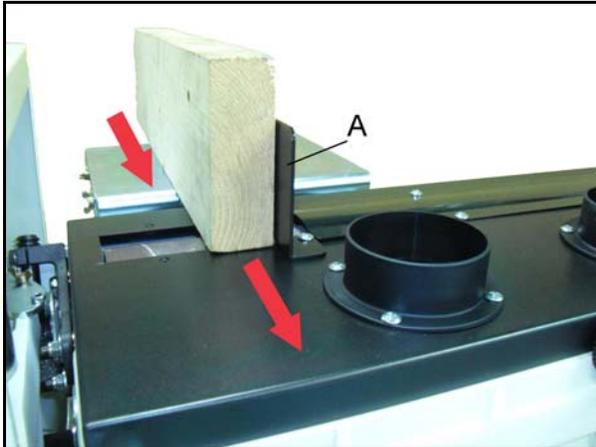

Figure 34
The plate (A, Figure 34) can be removed to allow edge sanding and remounted as a vertical guide fence. Raise rear drum until it just contacts with the workpiece but still can be rotated by hand.
**Feeding direction is from the rear of machine to the front as the red arrows shown in Figure 34.**